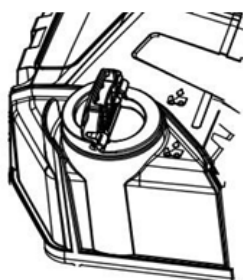

Fig 11
- Never use used or reclaimed oil to avoid malfunctions. Lubrication problems caused by the use of improper oil will void the warranty. (Fig. 11).